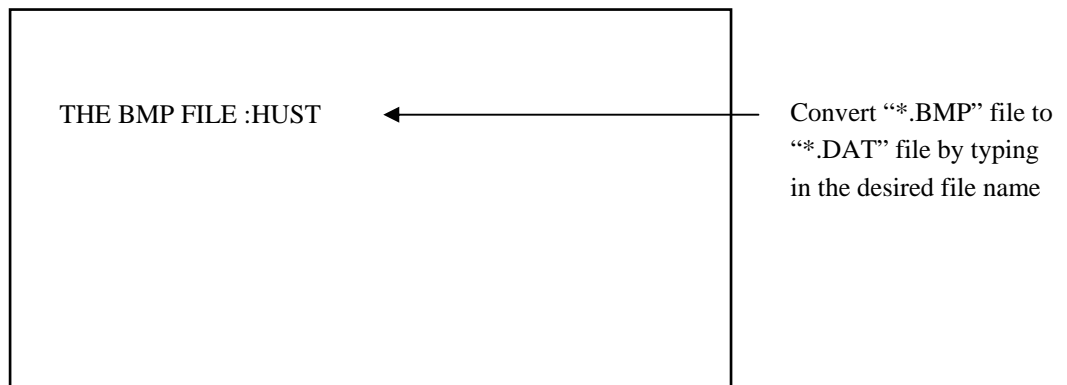

Fig 12-9 Convert “*.BMP” file to “*.DAT” file
Step 2: Execute DIY.exe file and press [F5] key on main function key page to get in “edit object pattern code”. Type in “*.BMP” file name and press ENTER to convert the file to “*.DAT” file as in Fig 12-9. Press any key to return to main function page.